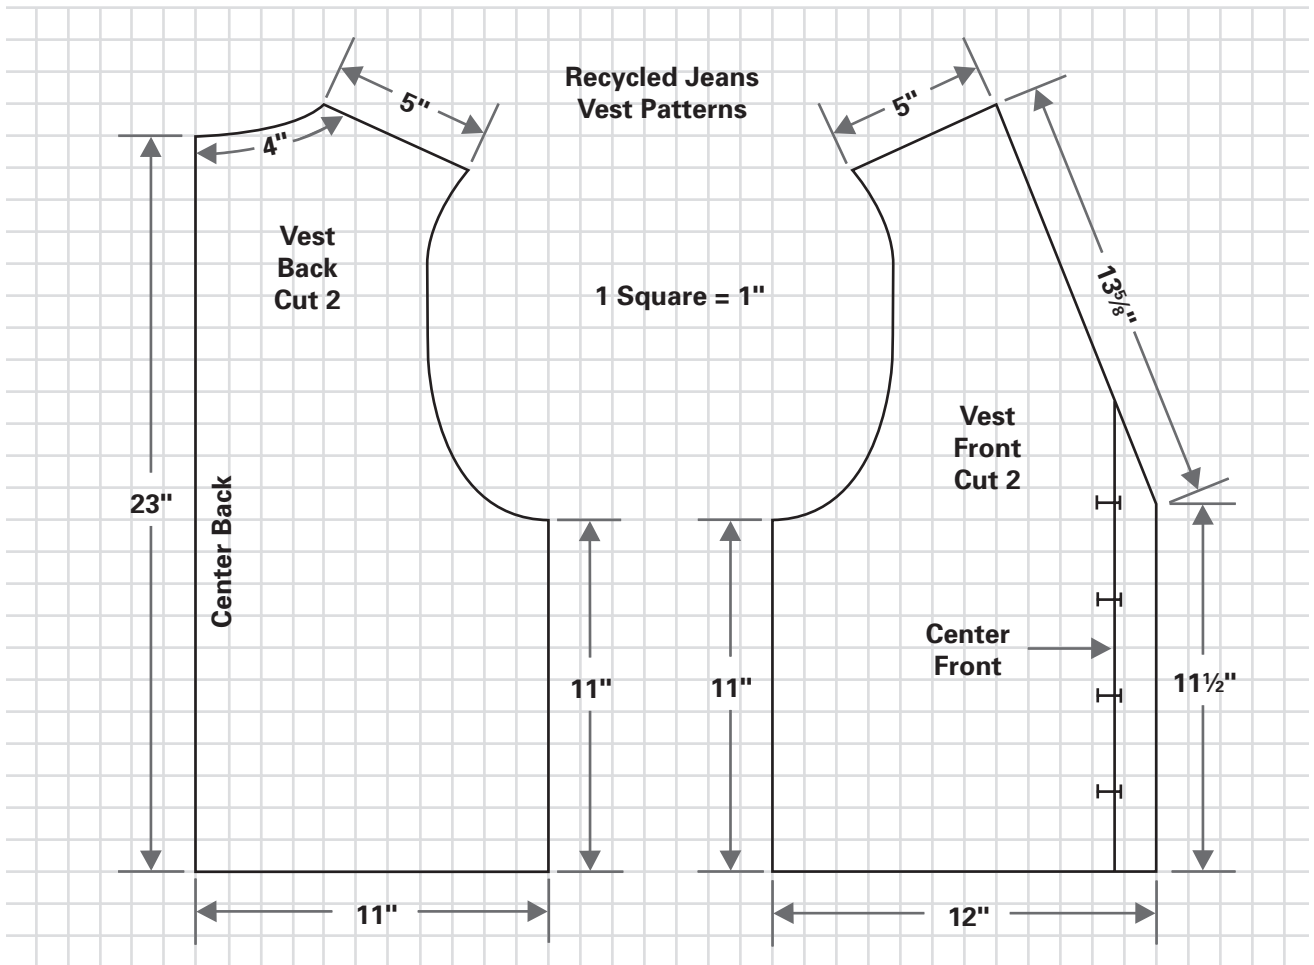

Fig. 11-6 Enlarge these patterns to make the jeans vest. Remember to make adjustments as needed for the correct fit.
1. Use the dimensions provided in Fig. 11-6 on page 126 to enlarge the front and back patterns and trace them onto pattern tracing cloth. Cut the patterns out of the cloth.